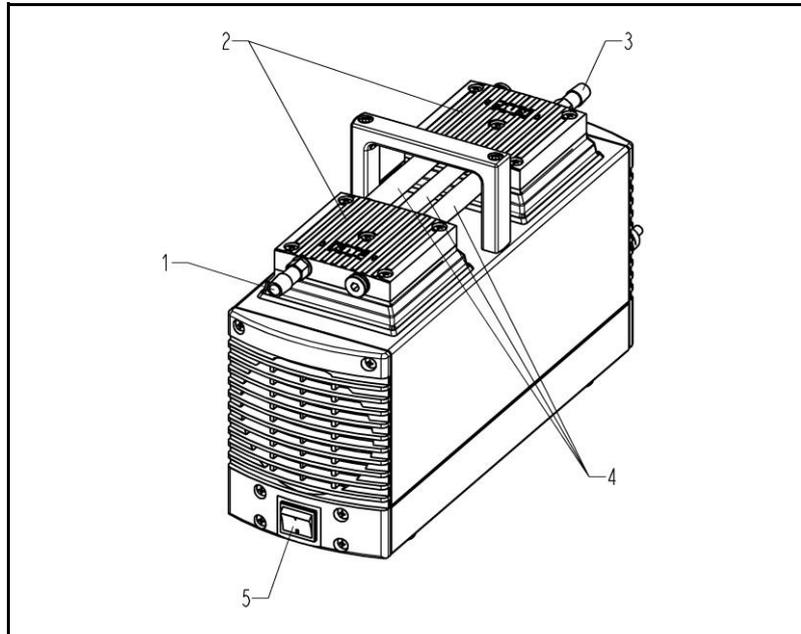

Fig. 2
- Switch on pump with mains switch (see fig. 2).
- Switch off pump with mains switch (see fig. 2).